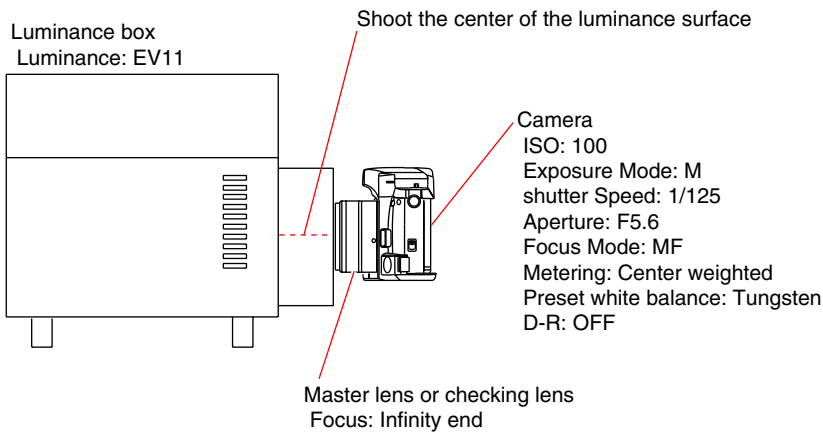

Fig.4-2-2
- 2) Set the equipments, camera and master lens as shown in Fig.4-2-2.